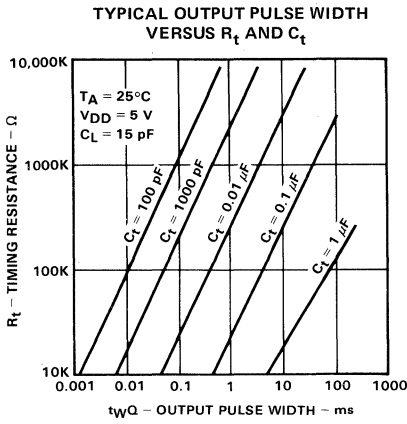
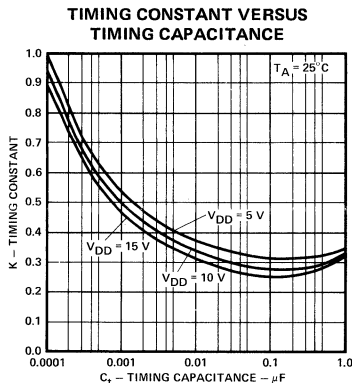

FIGURE 1.
Fig. 3.
3. Polarized capacitors may be used directly. The (+) terminal of a polarized capacitor is connected to pin 2 (14) and the (-) terminal to pin 1 (15). Pin 2 (14) will remain positive with respect to pin 1 (15).
4. The output pulse width can be determined from the pulse width versus C_t or R_t graphs (Figures 1 and 2).
The first step is to choose a capacitor. Figure 1 shows pulse width versus resistor value with the capacitor value as the running parameter. A capacitor value is chosen so that the approximate resistor value is between 20 k Ω and 2 M Ω . Once the capacitor is determined, the timing constant (K) is found from Figure 3 for a specific V_{DD} . The resistor value is then determined from Equation 2. If the resistor value is less than 20 k Ω the timing constant should be increased by 20% and the resistor value re-calculated. The resistor must be larger than 5 k Ω .
From Figure 1 a capacitor value between 0.01 and .1 μF would be reasonable. A 0.022 μF capacitor is the only capacitor that is available.
The timing constant for a 0.022 μF at 10 V V_{DD} is found from Figure 3 to be approximately 0.3.